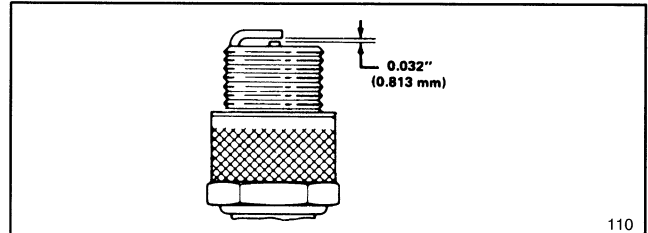

Figure 16
3. Set air gap at 0.032" (0.81 mm) (Fig. 16). Install correctly gapped spark plug and gasket seal. Tighten plug firmly to 10 ft-lb (13.6 N·m).